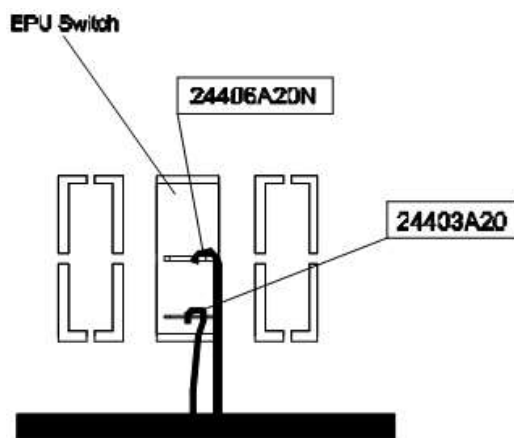

Figure 13. Instrument panel (step 20).
19. Install item 34 (rocker switch P/N CA02-J1-1-2-07-Q) into the EPU switch location.
20. Remove the heat shrink from the capped and stowed wires 24406A20N and 24403A20, and plug into the EPU switch. See Figure 13.